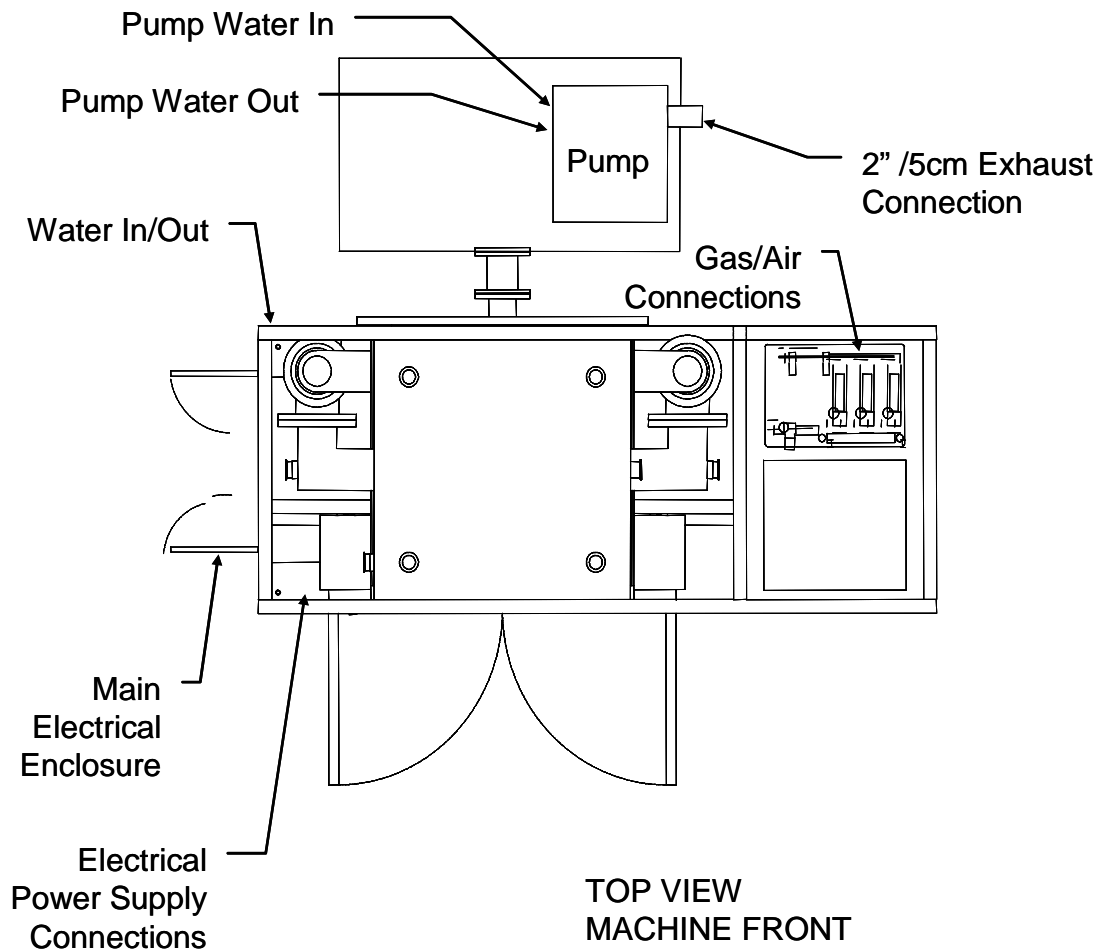

Figure 3-1 PWB (PCB)-Series Floor Plan
NOTE: Refer to Figure 3-1. See *Appendix B - Handling and Transportation of an MPS Plasma Machine* for information on handling and transportation.
Connection for the gases, electricity, and exhaust are made at the rear of the system. Refer to Figure 3-1 to locate the positions of the utility ports for the MPS Plasma machine.
- > Refer to Figure 3-1 for location of the gas connection port.
1. Connect the exhaust line to the exhaust outlet on the oil mist separator. Refer to Figure 3-1 for the position of the exhaust port.